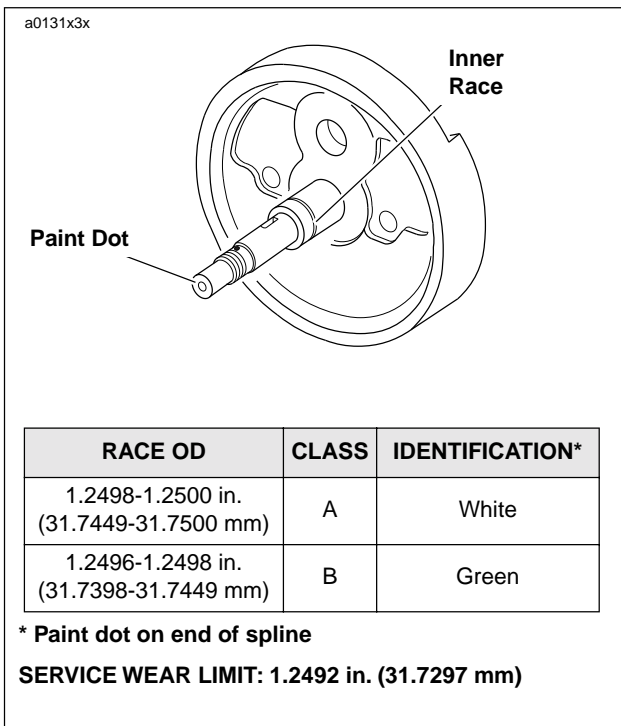

Figure 3-121. Factory Inner Race Sizes
14. See Figure 3-121. Installed inner races are identified at the factory as shown.